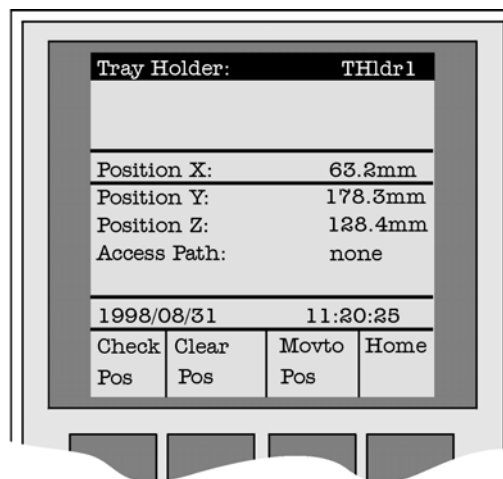

Figure 20. Menu Screen Object Trayholder
- 1 After selecting "Named Tray Holder", THldr1, the X Y Z positions for the selected object will be displayed (see Figure 20).